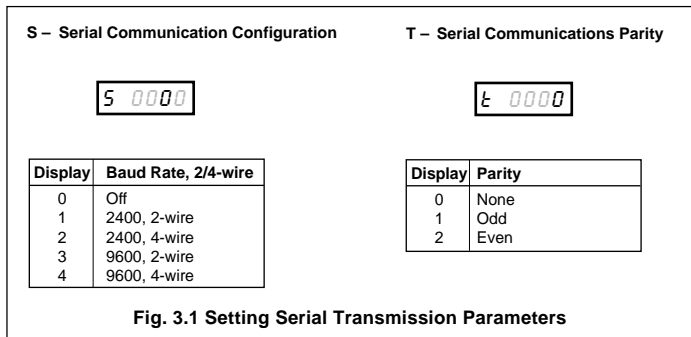

Fig. 3.1 Setting Serial Transmission Parameters
3.2 Setting the Serial Transmission Parameters – Fig. 3.1
Fig. 3.1 shows the display readouts and options available when defining the serial transmission rate and bit parity for DATUM L150/L160 instruments. Further detail on the procedures required to set each parameter are shown in Section 4.3 of the relevant *User Guide*.